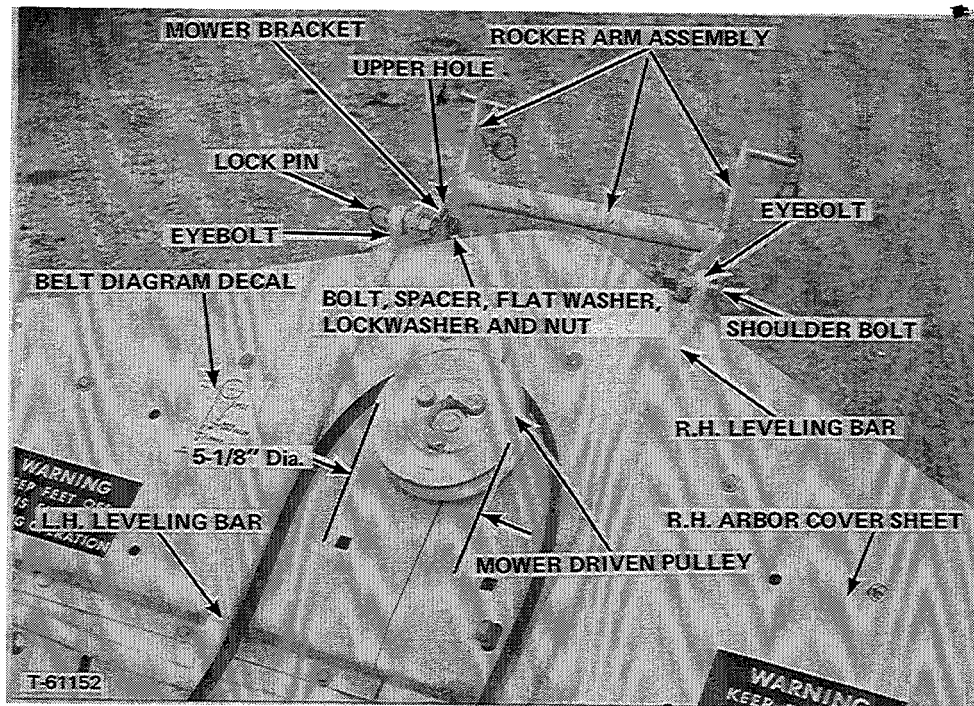

FIGURE 9 - 42" Mower
1. Bolt the rocker arm assembly in the lower holes of the mower brackets with two bolts, spacers, flat washers, lockwashers and nuts as shown in Figure 9.
2. Place shoulder bolts into rear holes of the rocker arm assemblies from the outside and install the eyebolt ends of the right hand and left hand leveling bars on the plain end of shoulder bolts and secure with lock pins as shown in Figure 9.
3. Install the 5-1/8" diameter mower driven pulley on the mower drive hub (Figure 9).
4. Place the belt diagram decal on the left hand arbor cover sheet (Figure 9).